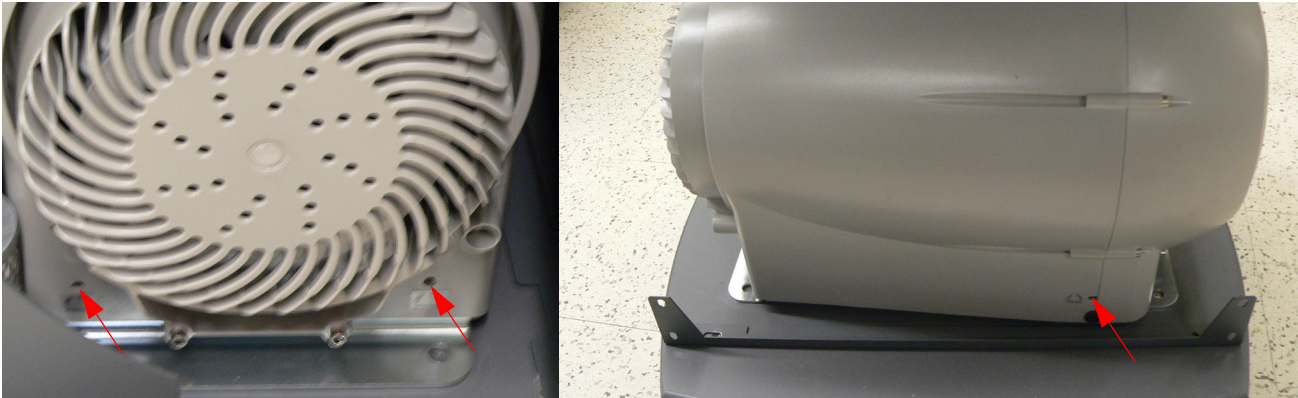

Figure 1-9 TriScroll Shipping Bolt
2. Disengage the four shipping locks and enable vibration isolation by inserting a 4 mm Allen wrench into each of the four shipping lock holes and turning the screws clockwise until significant resistance occurs. The pump body is now floating on its isolation mounts as in Figure 1-9. One shipping lock is accessed through an opening in the unit back panel.